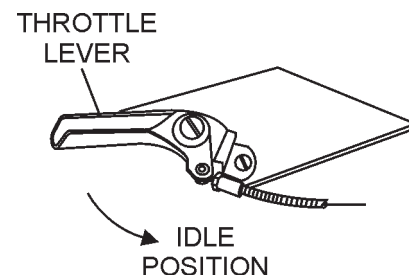

Figure 21. Throttle Lever (Idle Position)
2. Place the trowel's **throttle lever** (Figure 21) to the "ON" position.
- To begin troweling, place the throttle lever (Figure 21) in the "RUN" position